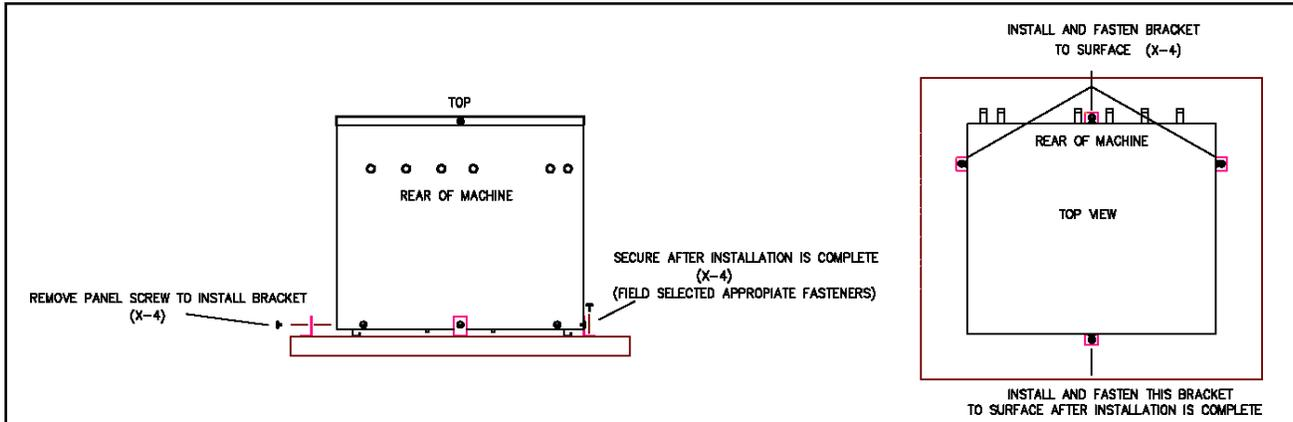

Figure 4. Compressor Unit Bracket Installation
- Total Green Mfg. compressor units may be located inside or outside. If outside, place compressor unit on a standard HVAC outdoor unit pad. If inside, place it on a level, hard surface. If the compressor unit is to be fastened down, see Figure 4 for bracket installation.